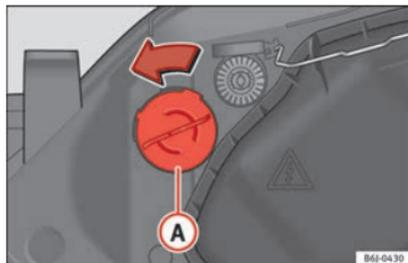

Fig. 100 Turn signal light.
- Turn bulb holder » Fig. 100 **A** to the left and pull.